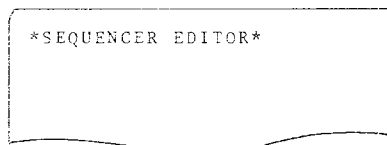
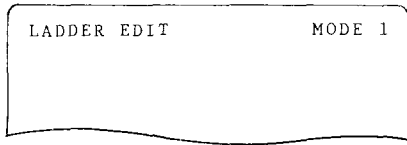

Fig. 9.7
Fig. 9.8
(1) When the sequence program is stored in P-ROM, snap the ROM/RAM select switch to ROM on the SD20. Set the switch to C-MOS for the program stored in C-MOS.
(2) Depress the POWER ON pushbutton to apply power (set the System No. switch to 0 or 4 beforehand). The NC mode will be entered.
(3) When a test run is performed here for sequence program check, stop all NC functions by Feed Hold or other operations and press the **RESET** key afterward.
(4) Set the System No. switch to 4.
(5) Depress the **DGN** function key, and depress the **NEXT** key. A comment "(STORED)" will appear following another comment "DIAGNOSIS" on the CRT.
(6) Depress the **X**, **S** and **D** keys, in that order. Then depress the **ORG** key. A comment "SEQUENCER EDITOR" will appear on the CRT (Fig. 9.7). About 2 seconds later, MODE 1 of the SD mode is entered (Fig. 9.8).
(7) Then operate the PAGE keys to select one of six MODEs in the SD mode.